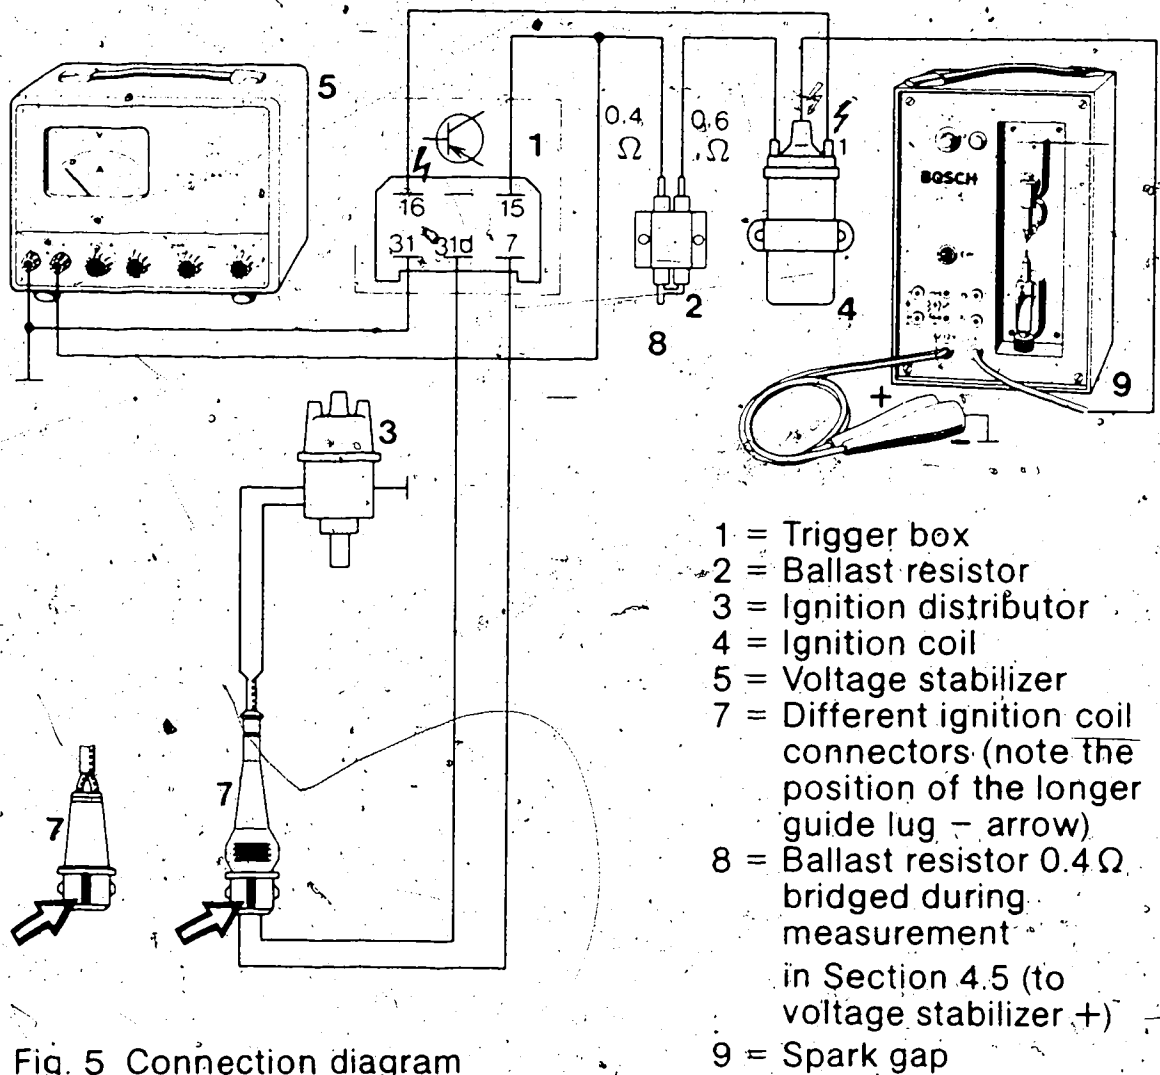

Fig. 5 Connection diagram
Dismantle the voltage divider and connect the ignition distributor direct to the trigger box, Fig. 5.
Bridge the ballast resistor as shown in connection diagram, Fig. 5, item 8.